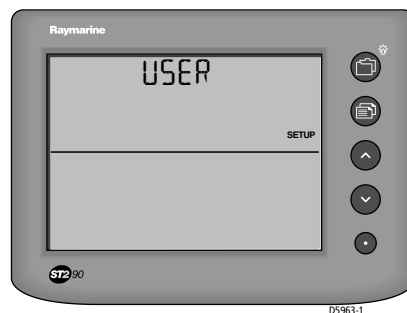

Figure 3-2: User Setup entry screen
2. Hold down the  button for 2 seconds to display the User Setup entry screen (see *Figure 3-2*).